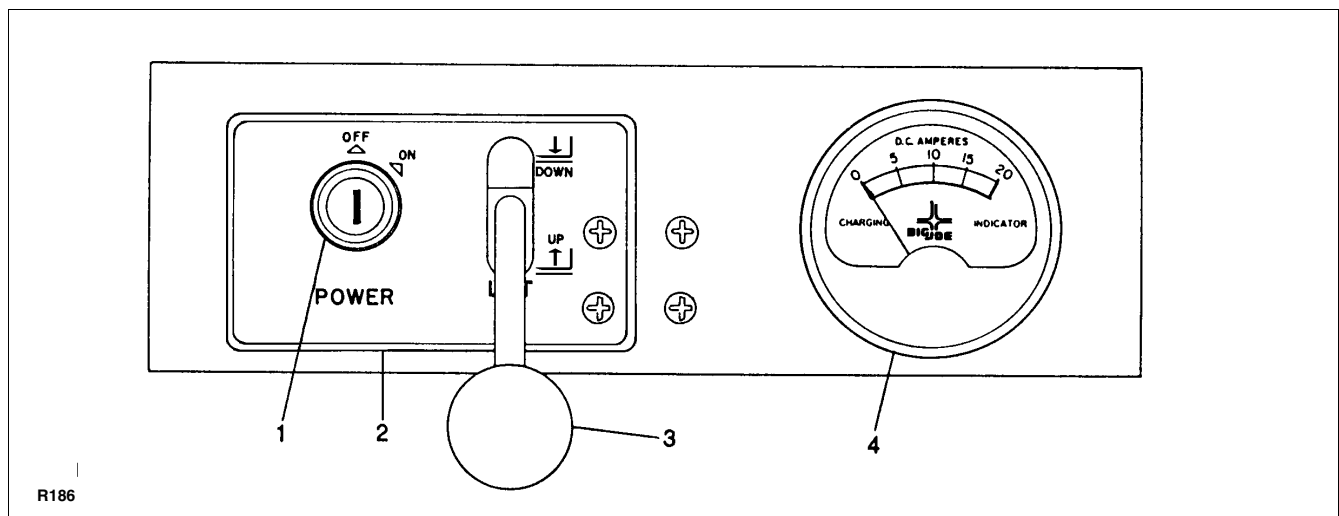

Figure 2-3 Instrument Panel
1. Turn off the key switch (1, Figure 2-3) and remove the key when leaving the lift truck.
The instrument panel contains the keyswitch (1, Figure 2-3), lift/lower control lever (3), and ammeter (4). An optional lift speed control can also be mounted on the instrument panel.
The lift control (3, Figure 2-3 regulates raising and lowering of the forks.
2. Turn the key switch (1, Figure 2-3) to ON.